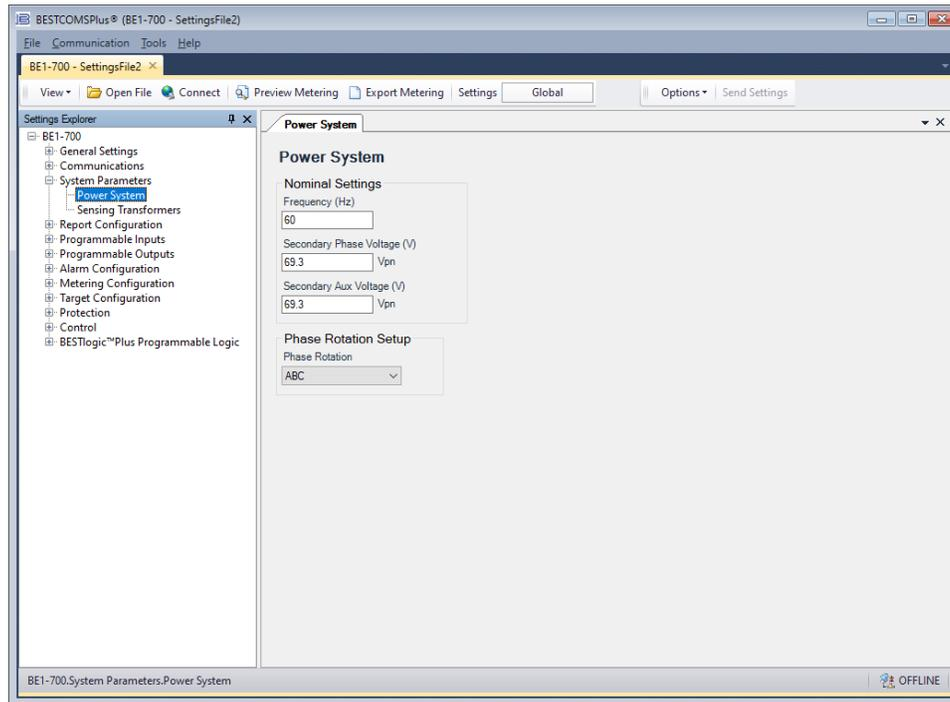

Figure 2-7. Power System Screen
- Step 5: In the Settings Explorer, click the “+” next to BE1-700. This expands the sub menus in the tree. Now expand System Parameters and select the Power System screen. See Figure 2-7.